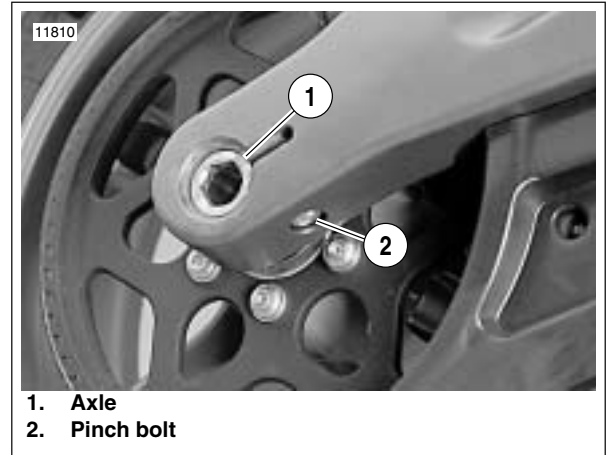

Figure 2-21. Rear Wheel Mounting, Right Side
3. See Figure 2-21. Loosen rear axle pinch fastener (2).
4. Loosen rear axle (1) approximately 15 rotations to allow partial tension to be removed from rear drive system.